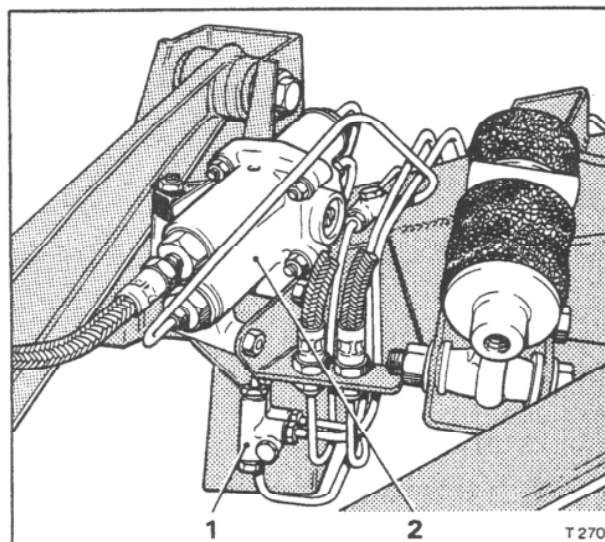

Fig. G24 Left-hand height control valve in position
3. **Left-hand height control valve.** Disconnect the two pipes entering the front of the valve at the two three-way junction connectors mounted on the rear face of the rear suspension crossmember (see Fig. G24).